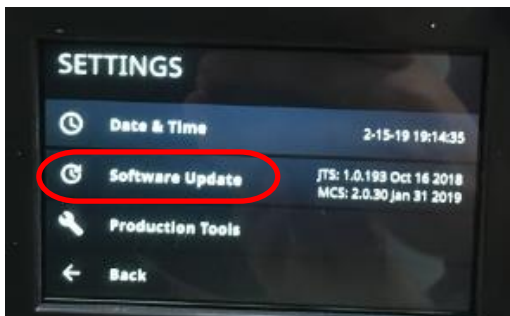

Figure E5: Settings Screen with Software Update Circled.
4. Select SOFTWARE UPDATES. See Figure E5.